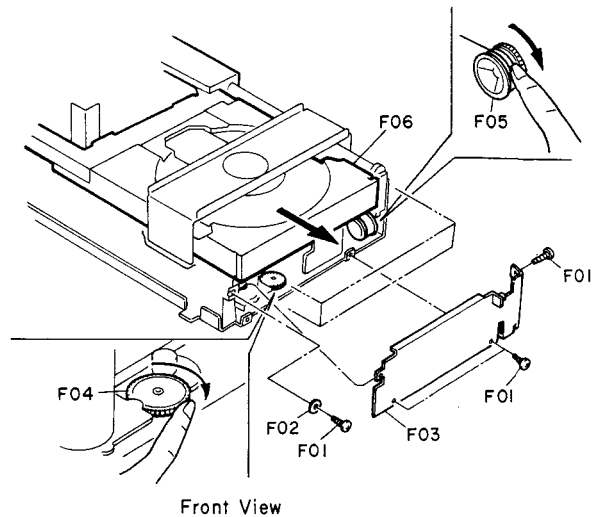
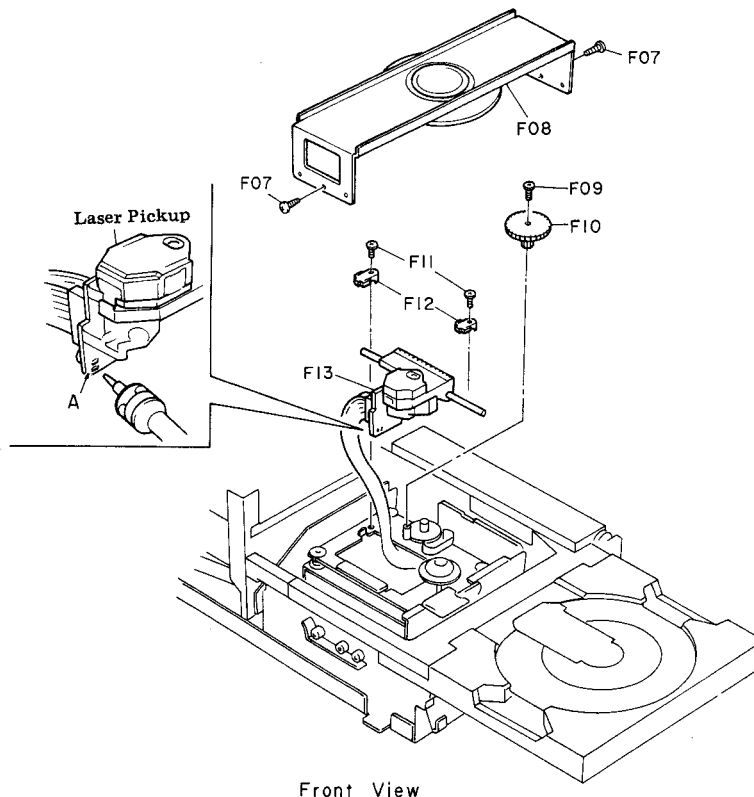

Fig. 2.7.1
Fig. 2.7.2
Refer to Figs. 2.7.1 and 2.7.2.
- (1) Remove the Mechanism Ass'y referring to item 2.6.
- (2) Loosen screws F01 (4 pcs.), remove a washer F02, and separate F03 (Blind Plate Ass'y). See Fig. 2.7.1.
- (3) Turn F04 fully clockwise and rotate F05 (Wire Pulley A) forward (in the direction of the arrow) until F06 (Disc Tray Ass'y) is ejected, then pull out F06 (Disc Tray Ass'y) by hand.
- (4) Loosen screws F07 (2 pcs.) and remove F08 (Stabilizer Holder Ass'y). See Fig. 2.7.2.
- (5) Loosen a screw F09 and remove F10 (Gear A).
- (6) Loosen screws F11 (2 pcs.) and remove F12 (Shaft Clamp, 2 pcs.).
- (7) Lift F13 (Laser Pickup) and shortcircuit lands "A" of the Laser Pickup with a soldering iron.
- (8) Disconnect two connectors from the Laser Pickup.
- (1) Connect two connectors to the new Laser Pickup.
- (2) Unsolder the soldering bridge at lands "A" with a soldering iron whose metal part is grounded or with a ceramic soldering iron. See Fig. 2.7.2.
- (3) Perform the reversal procedures of item 2.7.1.